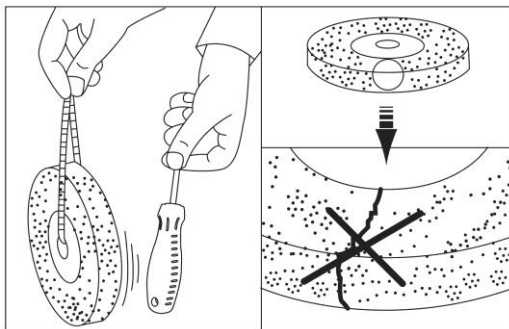

Fig.5
4. Place a new grinding disk on the spindle. Before doing so, ensure that the grinding disk is undamaged and that it meets the technical requirements of this double grinder. Carry out a sound test. Faultless grinding wheels will make a clear sound when struck gently with a plastic hammer (or piece of wood) (Fig.5).
5. Put the tension flange (8) back on the spindle and secure with the adjusting nut.